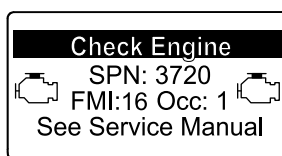

Figura 65
- Engine warning (Avertisment motor) SPN 3720, FMI 16 (Figura 65)